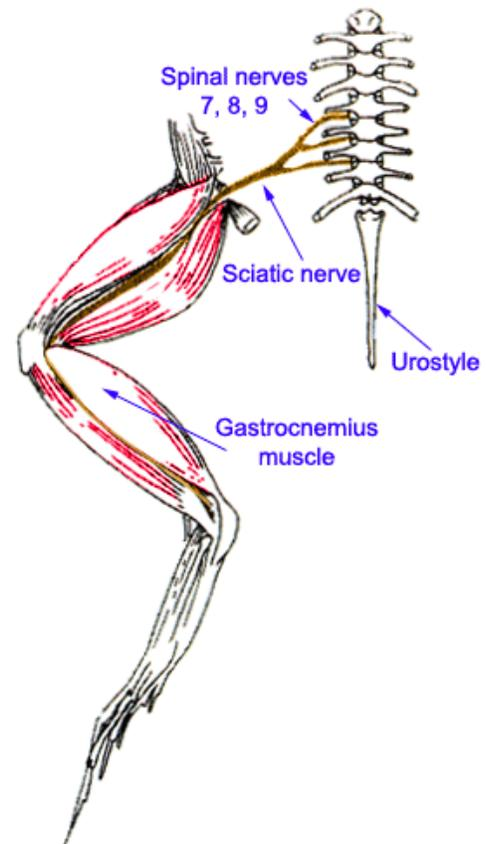

Figure 3: Frog Sciatic Nerve
- 1) Once your frog has been pithed, lay it on its stomach and grab the skin on the upper thigh with a pair of forceps. Use a pair of scissors to nick the skin and then insert the tip of the scissors under the skin. Cut down the length of the leg and remove the skin to the knee. The pair of muscles that are visible are the *semimembranosus* and the *triceps femoris*. The muscle lying between these is the *iliofibularis* (Figure 3).